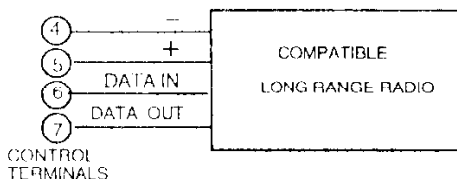

Figure 11. Long Range Radio Connections
2. Connect the Red LED to pins 7 and 9 on the 9-pin connector, using a 4142TR cable as shown in Figure 11.